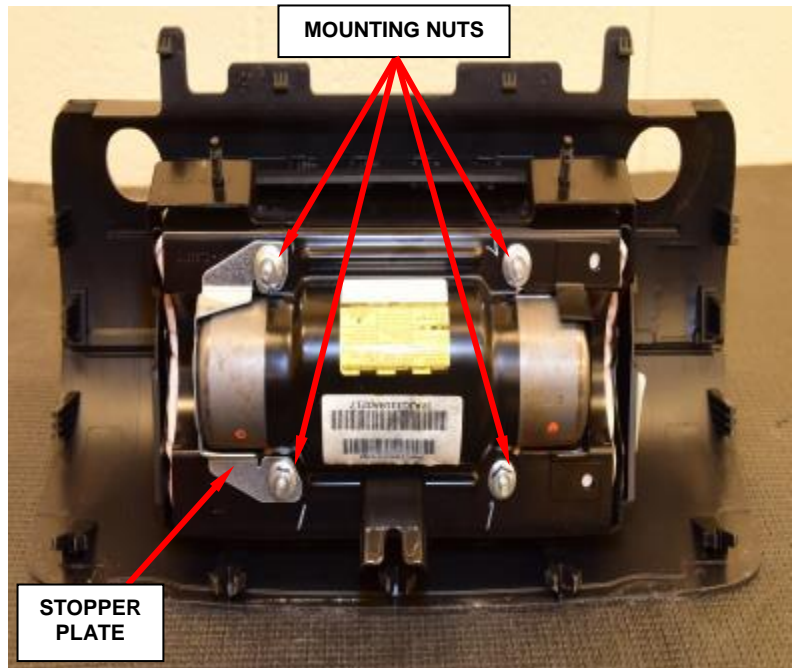

Figure 129 – Mounting Nuts
b. Remove and **discard** the four mounting nuts from the passenger airbag module (Figure 129).